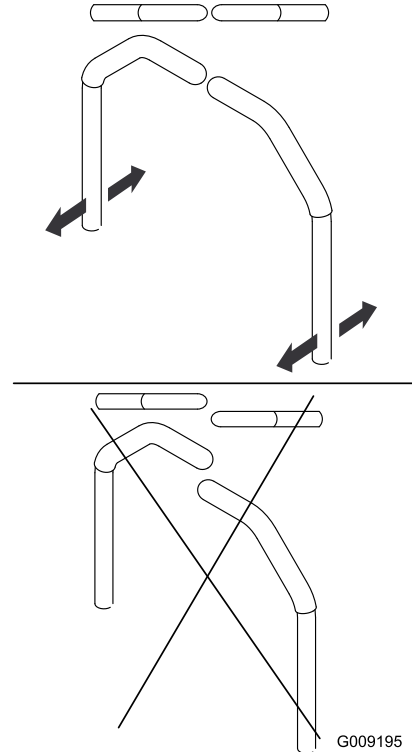

Figure 53
9. Align the levers in the front-to-rear position by bringing the levers together to the NEUTRAL position, and slide them until they are aligned, then tighten the bolts (Figure 53).